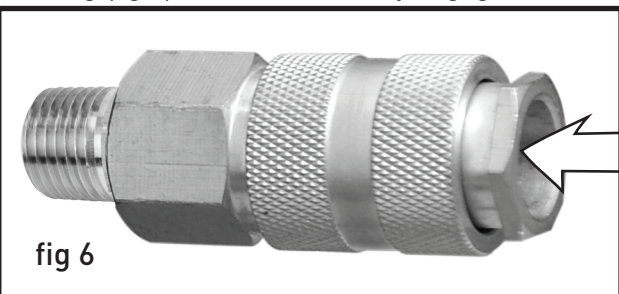

fig 6
Your air compressor is supplied with a 1/4" push-connect air coupler (fig 6). With a factory installed
- Simply push the "connector" or "plug" into the fitting (fig 6) and it automatically engages.